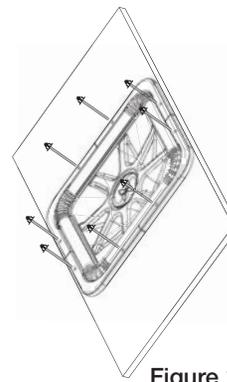

Figure 18
Fit the SPAIR to the BAM with the 10-24 Acorn Head Bolts. We have enclosed four (4) extra Acorn Head Bolts. See Figure 18.